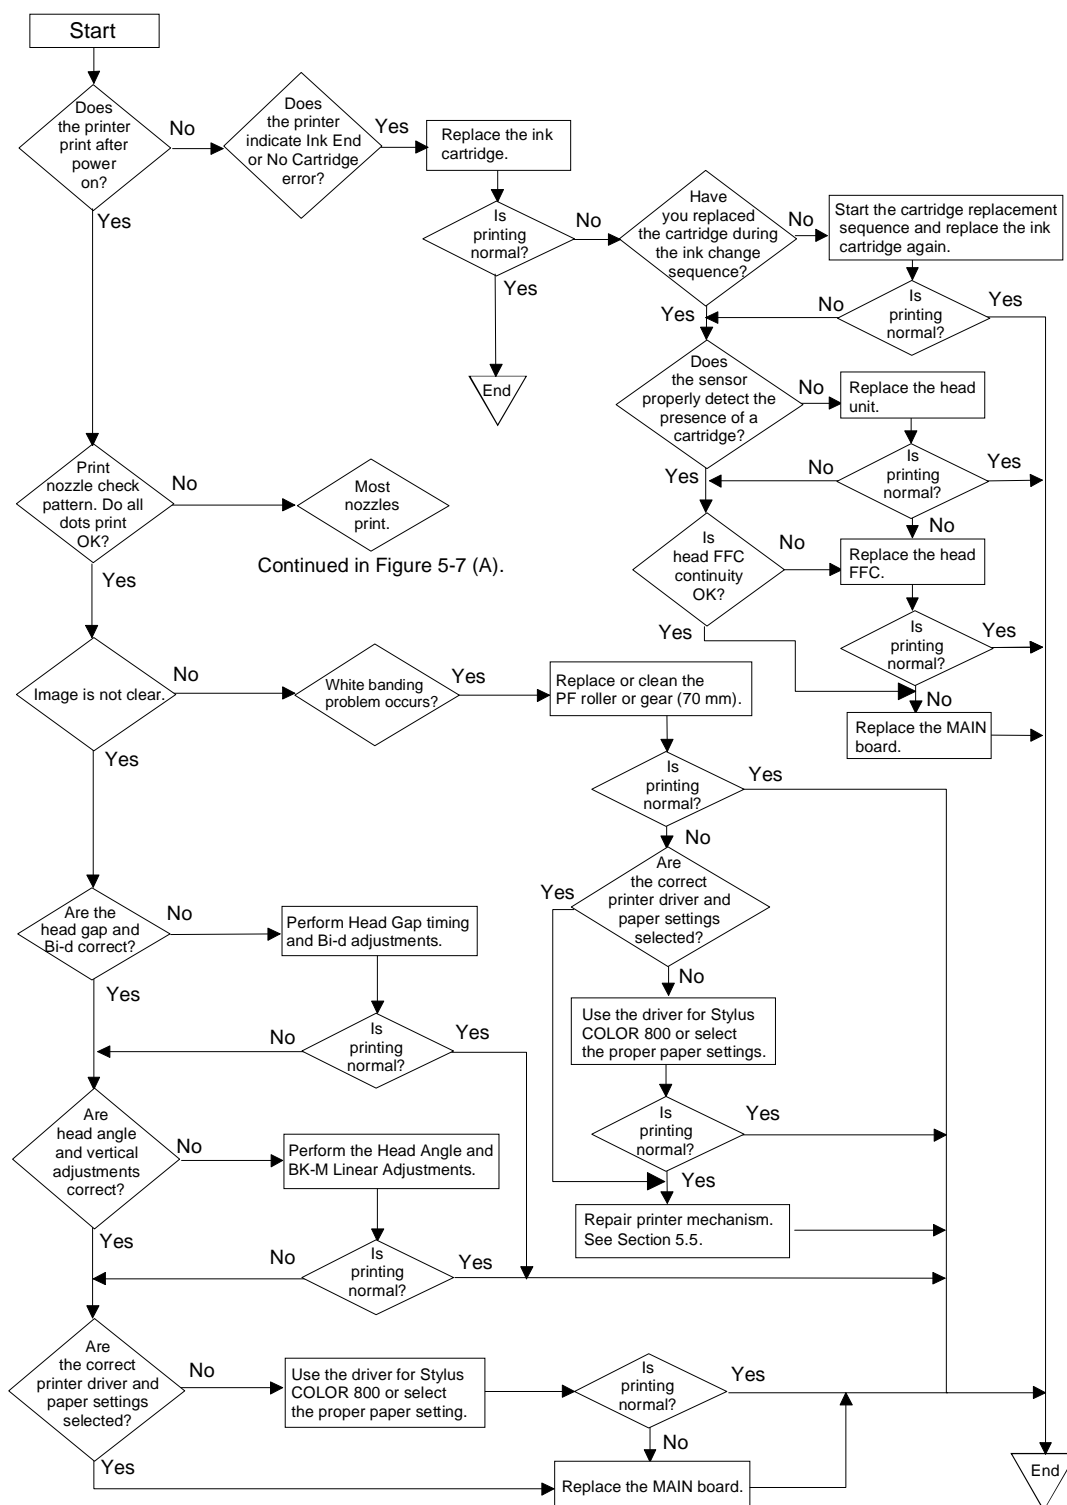

Figure 5-6. Flowchart 4-1
(A) Continued from Figure 5-6.